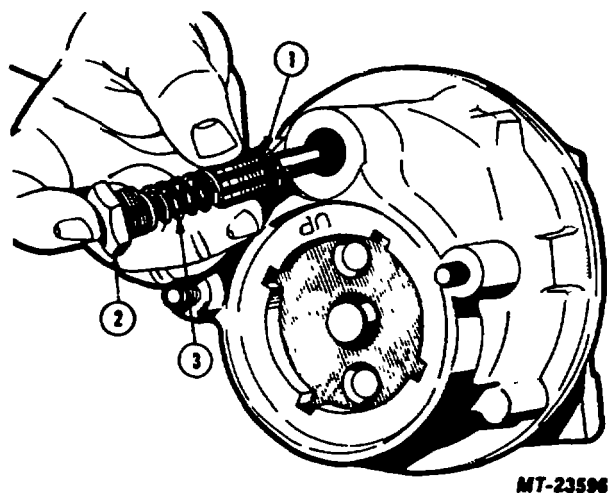

Fig. 38 Installing Flow Control Valve
13. Lubricate the flow control valve bore with the same type of lubricant as used in pump. Insert the valve assembly into the bore with the long small diameter end in first, Figure 38. The valve must slide smoothly in the bore. Place the flow control valve spring in the valve bore and install the valve cap finger tight.